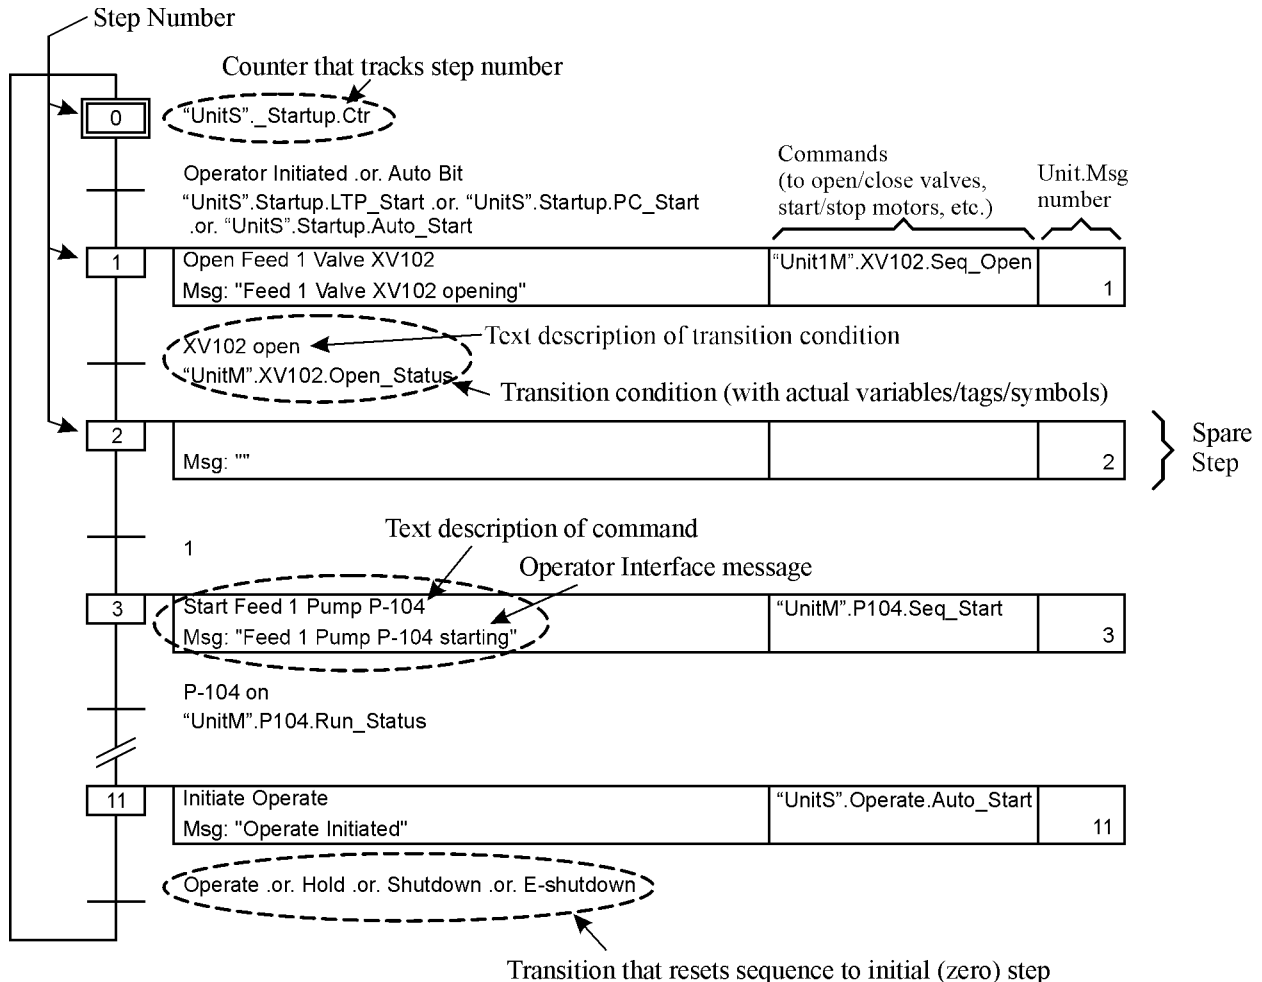

Figure 1. General format of sequence diagram.
The general layout of a sequence is shown in Figure 1 with the various parts identified.
- When the sequence reaches the last step, it remains in the last step until another sequence starts, which is indicated by the transition out of the last step. The example sequence in Figure 1 initiates another sequence in its last step.